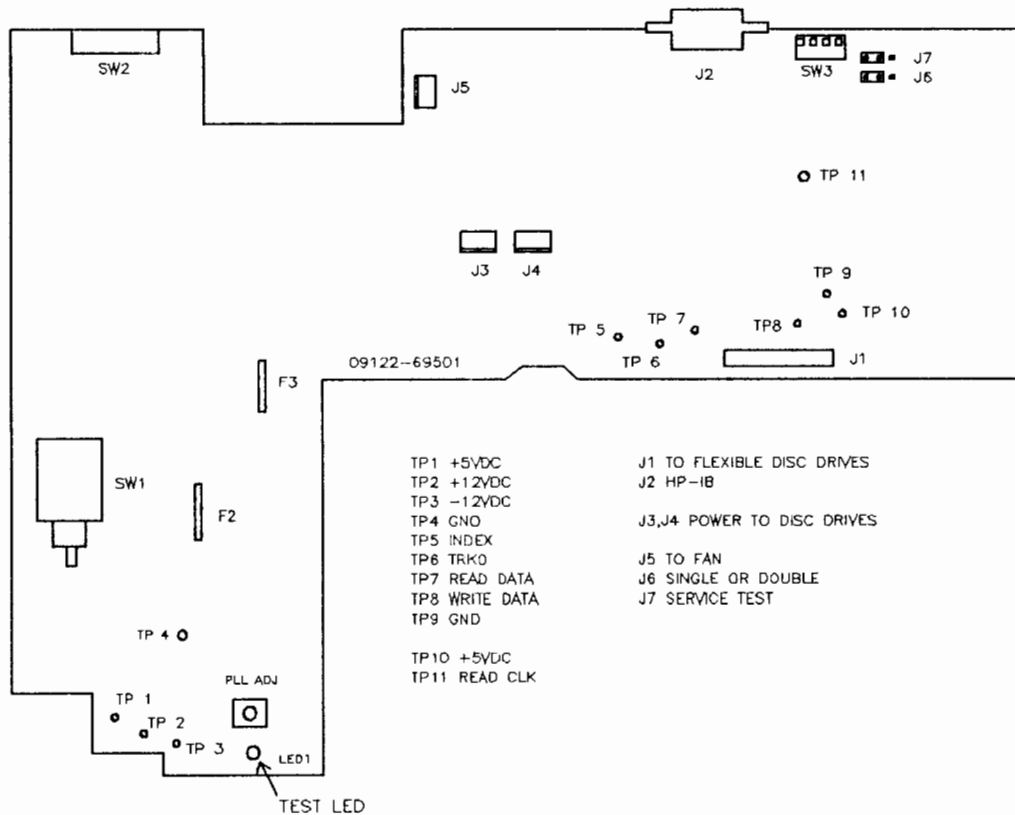

FIGURE 4-1
Figure 4-1 represents the power supply and controller electronics of the printed circuit assembly. Along with key components, the test points are also labeled.
4. Short the TEST jumper pins J7, see figure 4-1, with the jumper to start the test; LEAVE SHORTED TO LOOP ON THE SELECTED TEST.
Use figure 4-1 for locating test points.